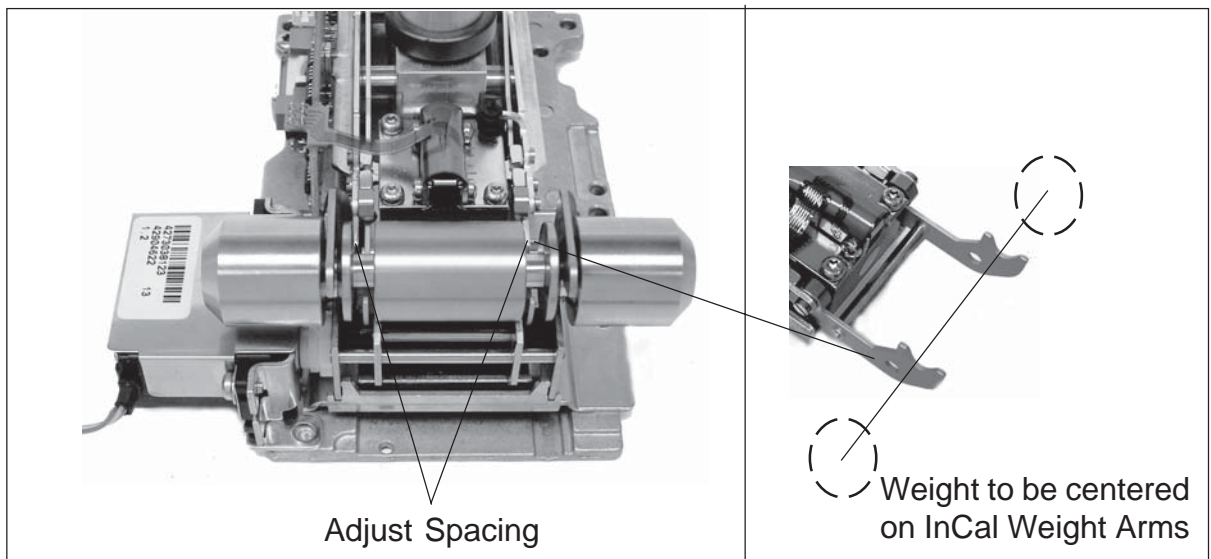

Figure 3-32. InCal Mechanism Alignment.
4. Position the InCal Mechanism so that the spacing is between the InCal Weight and the InCal Weight Arms even on both sides as shown in Figure 3-32.